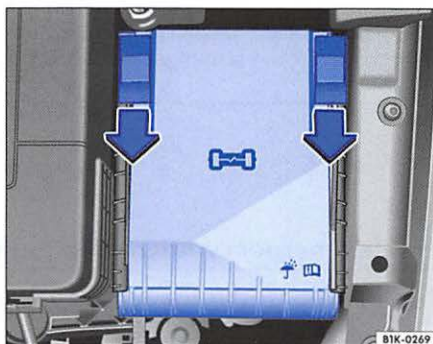

Fig. 33 In the engine compartment: cover of fuse box B
- Push the lock buttons forward in the direction of the arrow to release the fuse box cover ⇒ fig. 33.